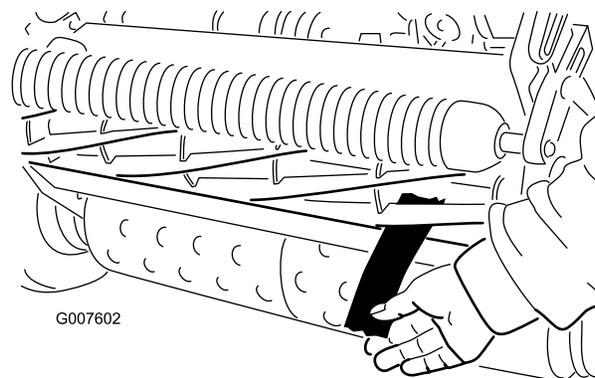

Figure 50
4. On one end of the front side of the reel, insert a long strip of newspaper between the reel and bedknife (Figure 50). While slowly rotating the reel forward, turn the bedbar adjusting screw clockwise (on the same end of the reel, one click at a time, until the paper is pinched lightly, when inserted from the front, parallel
6. After the adjustment is accomplished, check to see if the reel can pinch paper when inserted from the front and cut paper when inserted at a right angle to the bedknife (Figure 50). It should be possible to cut paper with minimum contact between the bedknife and the reel blades. Should excessive reel drag be evident (more than 7 inch-lb (0.79 N-m)), either backlap or grind the cutting unit to achieve the sharp edges needed for precision cutting; refer to the *Toro Reel Sharpening Manual*.